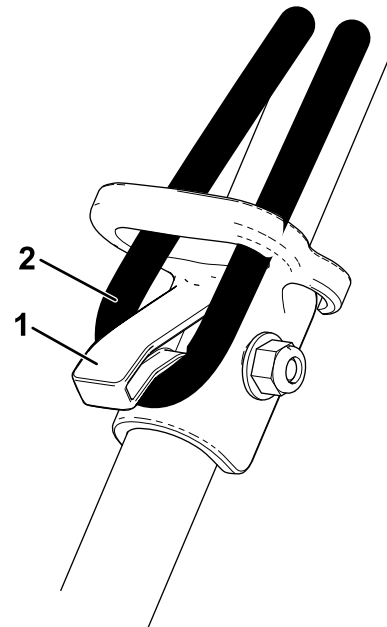

Figure 9
**Note:** To prevent the extension cord from disconnecting during operation, use the cord lock on the upper handle before you connect it to the machine (Figure 9).